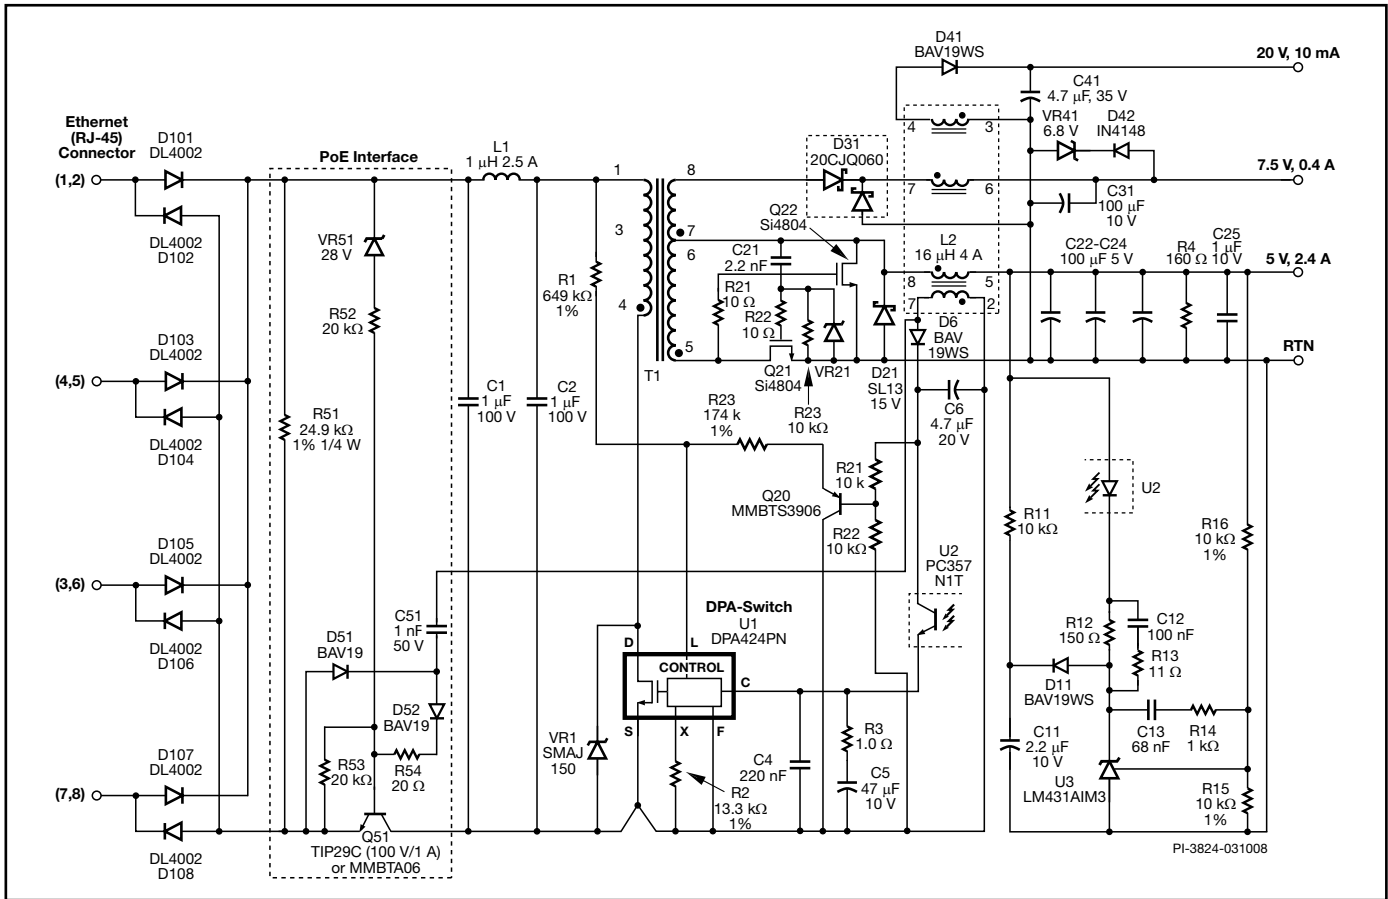

Figure 27. PoE Interface Circuit Using a Bipolar Transistor Pass-Switch and DPA424P.
controlled pass-switch. By adding this circuitry to the front end of a DPA converter, a low cost and low component count PoE powered device (PD) power supply can be implemented. Figure 27 shows a typical PD solution.
When input voltage is applied to the PD, it must present the correct discovery signature impedance in the voltage range of 2.5 VDC to 10 VDC. This impedance is provided by R51 in Figure 27.
In the third phase, the bipolar pass-switch (Q51 in Figure 27) connects the input voltage to the power supply at voltages above approximately 30 VDC (28 V+VR52). Zener diode VR51 conducts, driving the current through resistor R52 to the base of Q51. Resistor R53 prevents turn-on under other conditions. Once the Power supply has started, components D51, D52, C51 and R54 enhance the base-current drive by coupling power from the power supply bias winding.